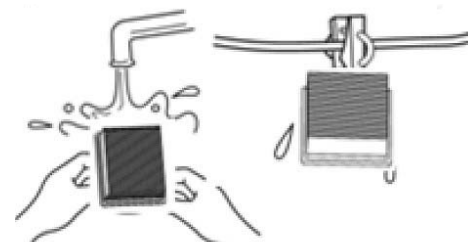

Fig. 14: Cleaning and drying the filter
Step 7: Clean the filter with water and let it dry completely (Fig.14).